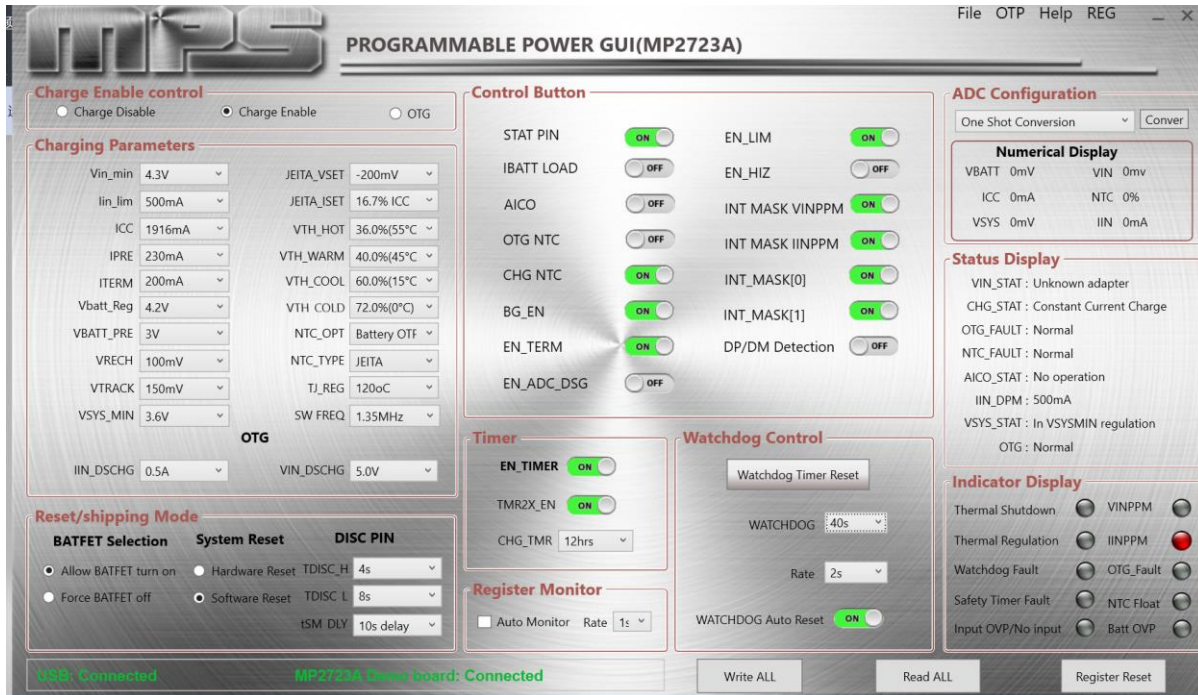

Figure 7: USB and MP2723A Demo Board Are Connected
- If the connection is successful, both the USB and evaluation board statuses should be listed as “Connected” in green (see Figure 7).
2. Click the “Read All” button to read the I²C register values. The default values are displayed (see Figure 7).